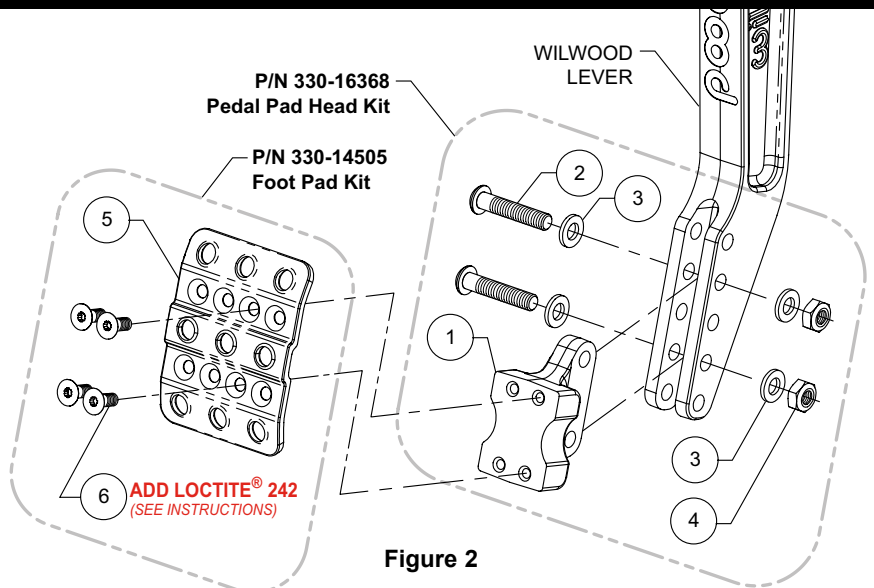

Figure 2
•Install the pedal pad head (1) into the “fork” of the pedal arm in the desired location as shown in Figure 2. Secure in place using bolts (2), washers (3), and locknuts (4).
•Torque locknuts (4) to 120 in-lbs.
•Orient foot pad (5) as shown in Figure 2. Pad may be installed in three different positions as shown in Foot Pad Detail of Figure 1b. Secure to pedal head (1) using four T-20 drive Torx screws (6). Apply blue *Loctite*® 242 to the threads and torque screws to 75 in-lbs.